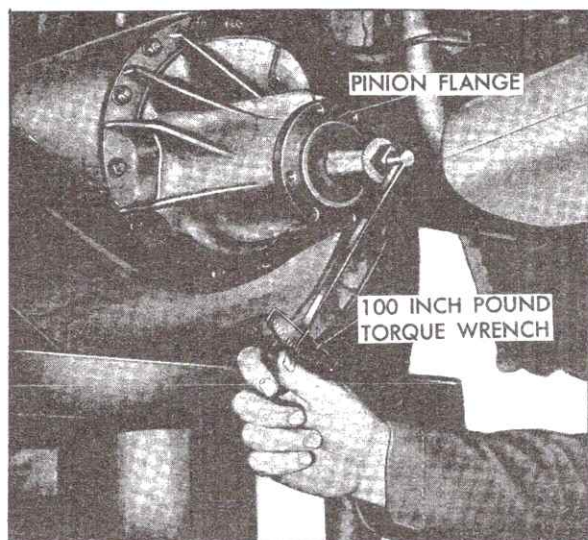

Fig. 4-40 Checking Pinion Shaft Pre-Load Torque
4. Using a 0-100 inch-pound torque wrench and a 1-1/4 inch socket with a 3/4 to 1/2 inch adapter, measure the inch-pounds torque required to rotate the pinion shaft slowly for at least two turns, Fig. 4-40. Record torque reading.
**NOTE:** Proper pre-load of bearing is attained when torque required to rotate pinion shaft is from 2 to 5 inch-pounds greater than the torque recorded in step 4 of the removal procedure. It will be necessary to remove Holding Tool and drive socket wrench and to install 3/4 - 1/2 inch adapter to check torque required to rotate pinion shaft, Fig. 4-40.